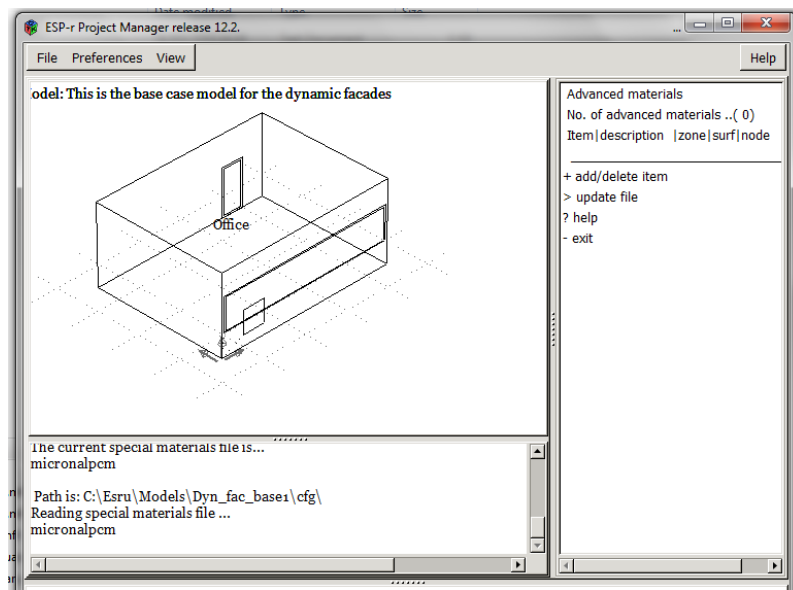

Figure 7
**Step 7:** The programme will then ask you if you wish to input the special component into you building, click *>add/delete items*. (figure 7)